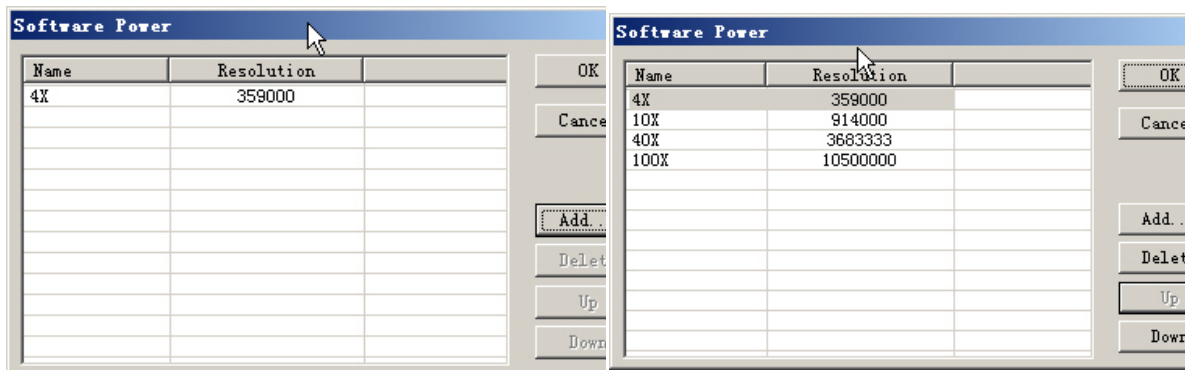

Fig. 8 **Software Power** list view with **4X** item added
7. The program will return to **Software Power** dialog box just the same as in Fig. 6 but **4X** and its resolution equal to **35900** item is added in the list view as shown in Fig.8.